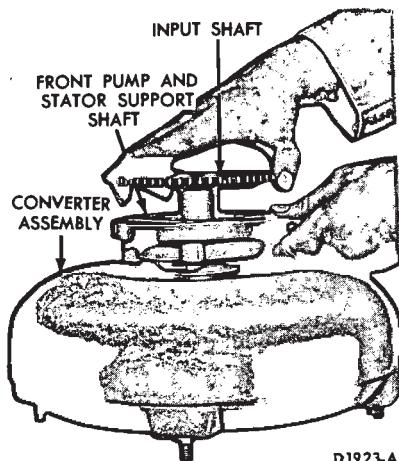

FIG. 23—Stator to Turbine
3. Install the input shaft, engaging the splines with the turbine hub (Fig. 23).